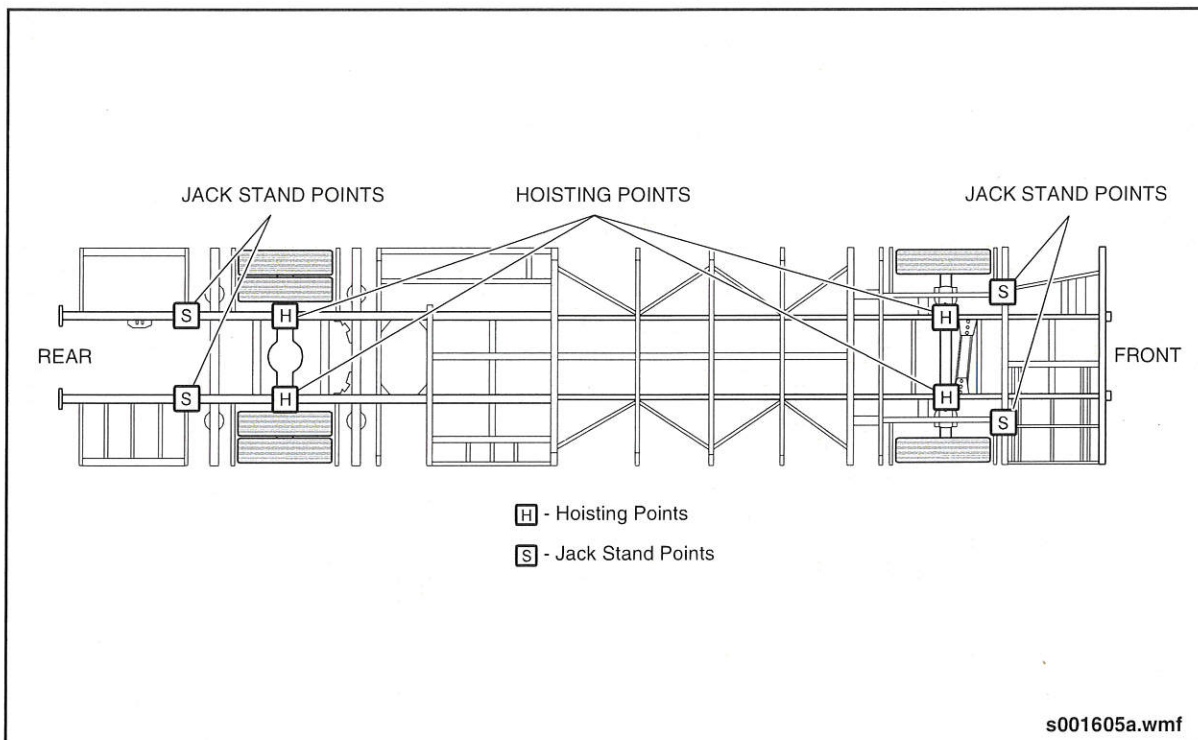

Fig. GI-15: Jacking (hoisting) Points & Stand Placement
- a. Locate the appropriate jacking pad under the frame rail at the rear of the vehicle. See "Fig. GI-15: Jacking (hoisting) Points & Stand Placement" on page 26.